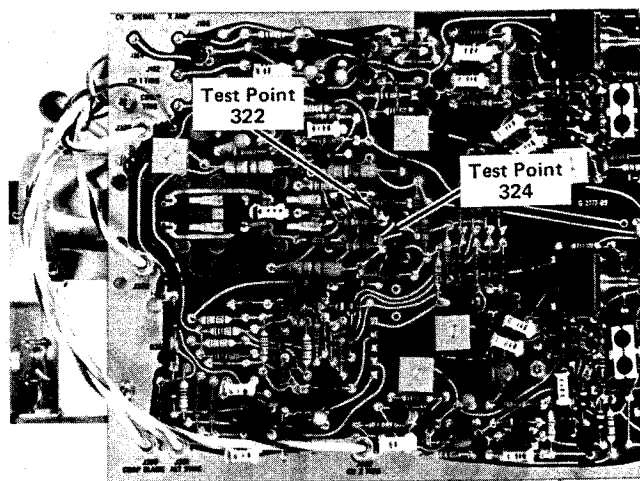

Fig. 5-8. Location of test points 322 and 324.
- a. Connect the DC Voltmeter between TP322 and TP324 (see Fig. 5-8).